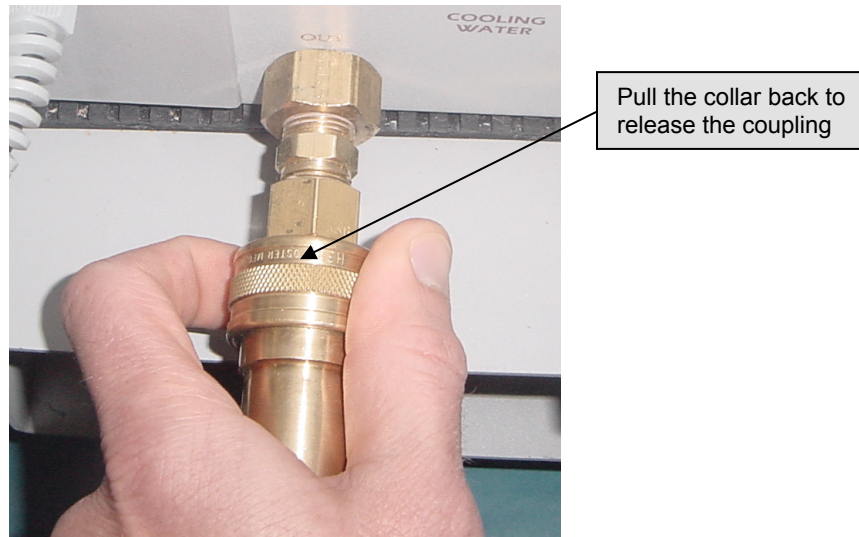

Figure 7-14: Disconnecting the cooling water quick connect coupling
- To disconnect the couplings, pull the collar back. **See Figure 7-14.**